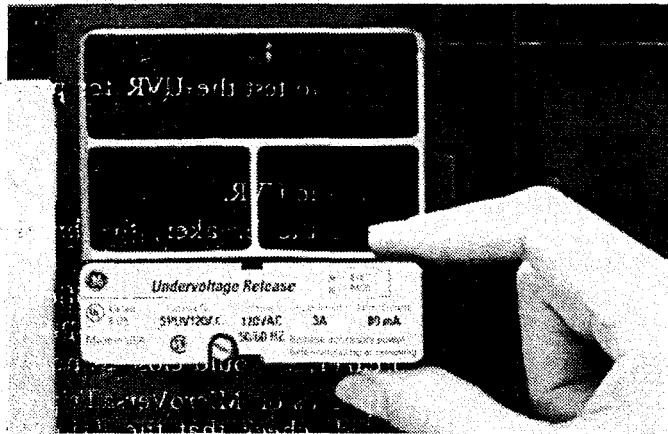

Figure 3. Inserting the Undervoltage Release into the accessory compartment.
3. Insert the UVR accessory into the proper slot, as illustrated in Figure 3. The UVR accessory is keyed for the correct slot in the accessory compartment. If the accessory cannot be fully seated in the compartment, check that the compartment position is correct.